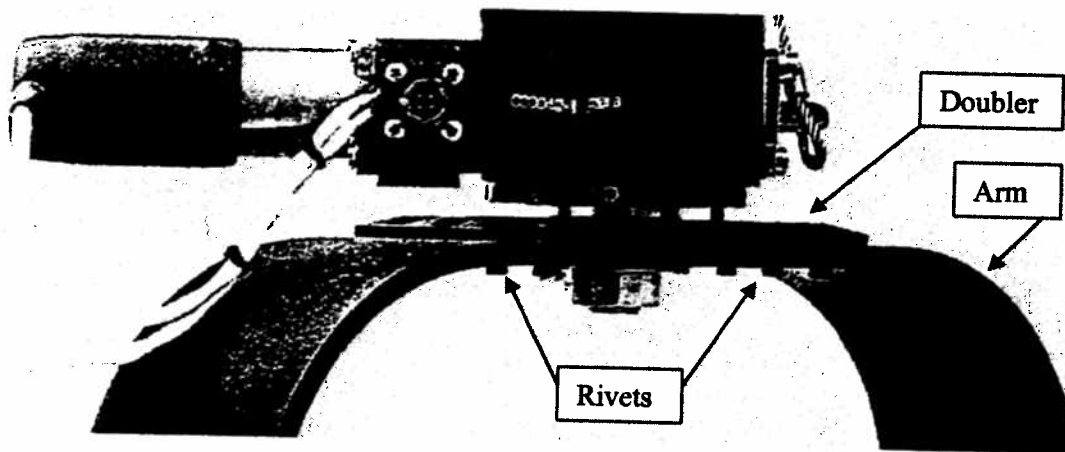

Figure 1. Upper portion of gimbal arm with doubler and rivets identified. See text for inspection procedure and criteria.
- 1.2.3.** In a well lighted area, examine the entire gimbal arm for signs of cracks, corrosion and chipped or peeling paint. Pay particular attention to the area of the doubler and the rivets, indicated in *Figure 1*. This inspection must be carried out by a qualified airframe mechanic trained in the visual inspection of rivets and mechanical structures. If any cracks or loose or broken rivets are found, the arm must be replaced.